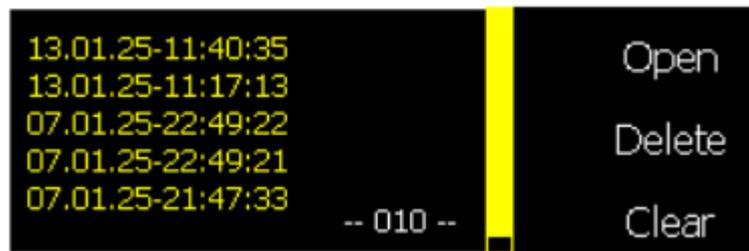

Figure 3.7 – Operation with saved files
3.3.1 The Device allows the user to view and delete previously saved measurements (Figure 3.7).